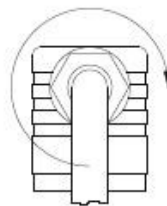

Fig. 9
- Press the inner part (pos. 8) into the cable socket until it clicks into place (pos. 2).
- Insert the central screw (Pos. 6) into the cable socket (pos. 2) and tighten the cable gland (pos. 5) (Fig. 9).